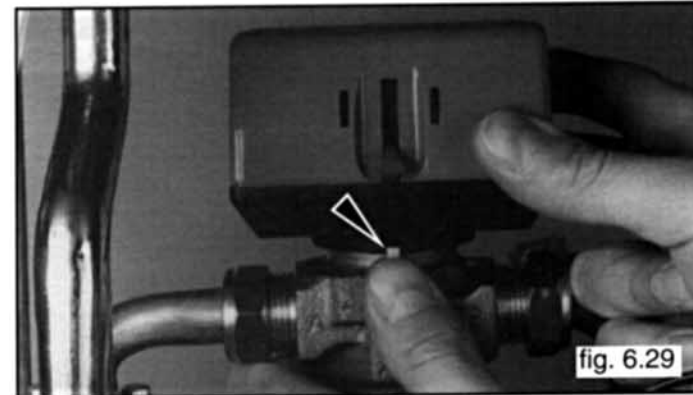

fig. 6.29
4. Press the button indicated in figure 6.29 and turn the motor in the counter-clockwise direction at the same time.